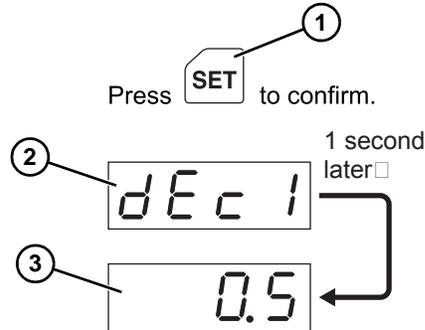

Figure 30
- After the acceleration time has been changed, press SET (Figure 30, item 1) to confirm the new setting. The display will blink and show “dEc1”(Figure 30, item 2), after which the deceleration time (Figure 30, item 3) will be displayed.